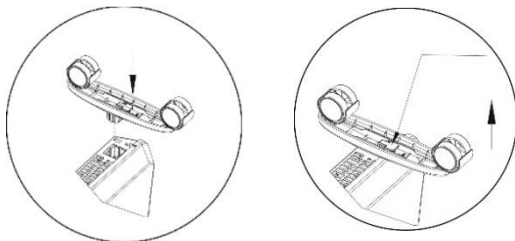

Fig. 1 Installing/removing the chassis
2. Fix the chassis to the convector (**Fig. 1**).